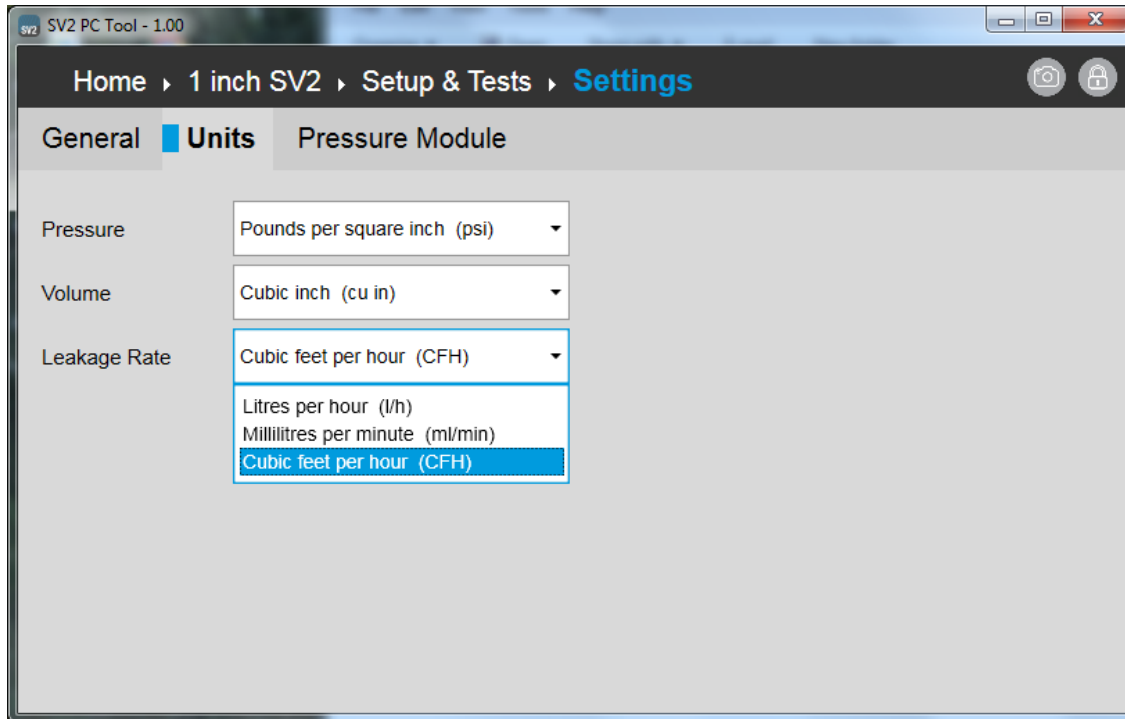

Fig. 36. Setup & Tests – Settings: Units.
**Units** Gives access to global selection for pressure, volume and leakage rate. Refer to Fig. 36.
**Pressure Module** Tab selected on Settings page. Refer to Fig. 36.
**Pressure Range** Pressure range of the connected Pressure Module in the units selected on the Units tab. Refer to Fig. 36.